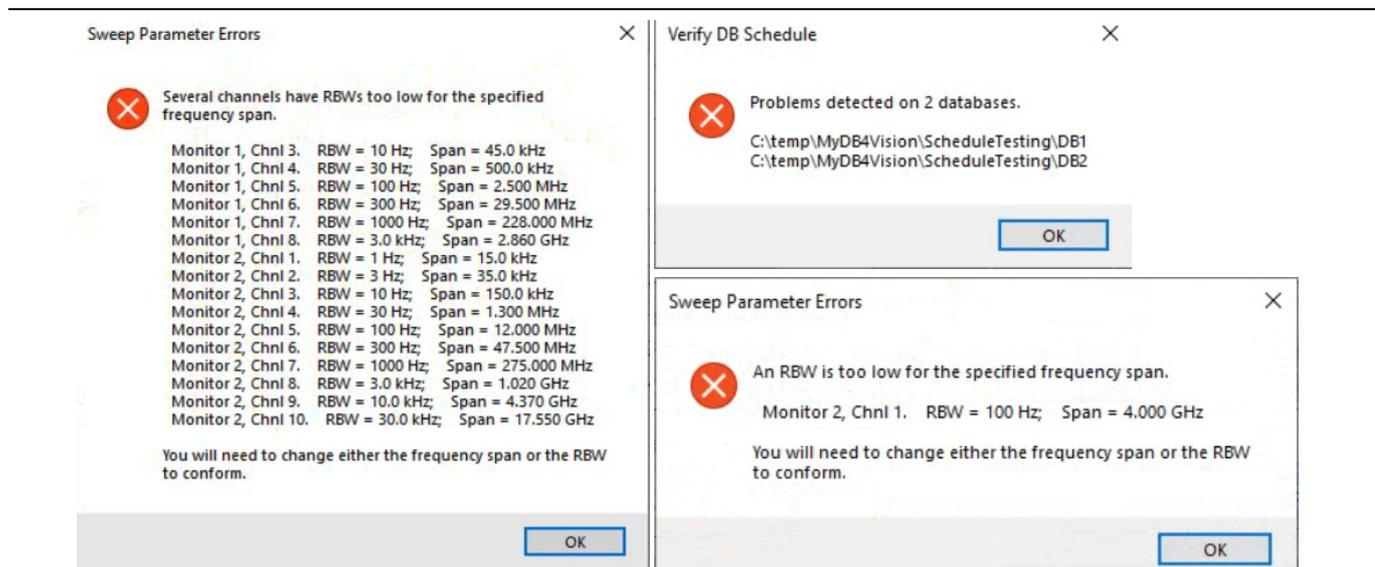

Figure 4-10. Scheduler Error Message Examples
6. Click Test Databases button. This provides a sweep parameters pre-check to verify the RBW, frequency range, and RSM communication is valid so the scheduled database sweeps will perform properly. If an invalid setup is detected, an error message will display as shown Figure 4-10. Corrections must be made as indicated to continue with the scheduled sweep.